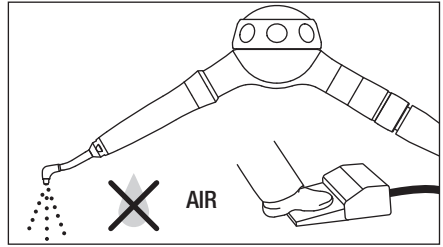

Fig. 6
- 2) Perform idle running with air alone to discharge water and powder in the nozzle (Fig. 6)